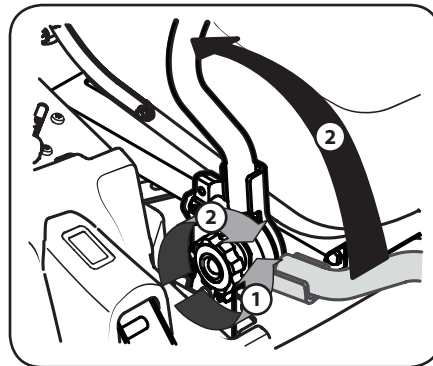

Figure 2-2
- Loosen the control lever knobs on the side of the drive control levers. See Figure 2-2.
- Lift and swing that control lever upward into the desired position and secure in place by tightening the control lever knob. See Figure 2-2.